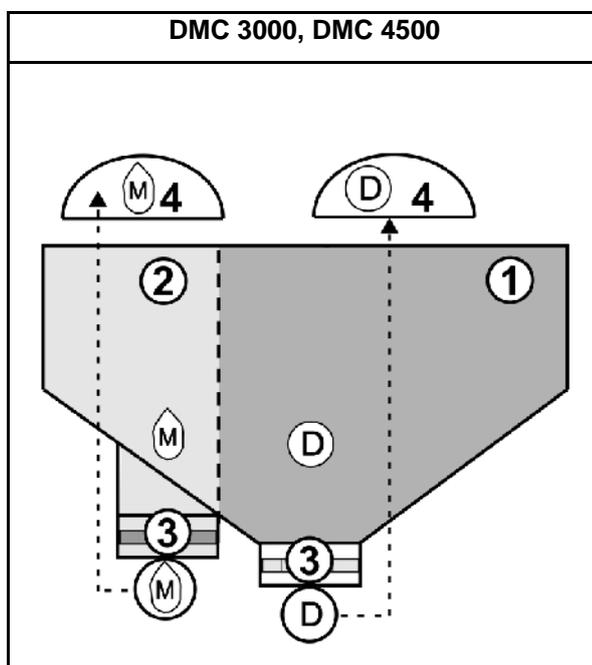

Fig. 30
- Equip the metering unit with the corresponding metering rollers for maize and fertiliser (Fig. 30/3, Fig. 313).
- Depending on the desired row spacing, several outlets on all of the distributors (Fig. 30/4, Fig. 31/4) must be closed.